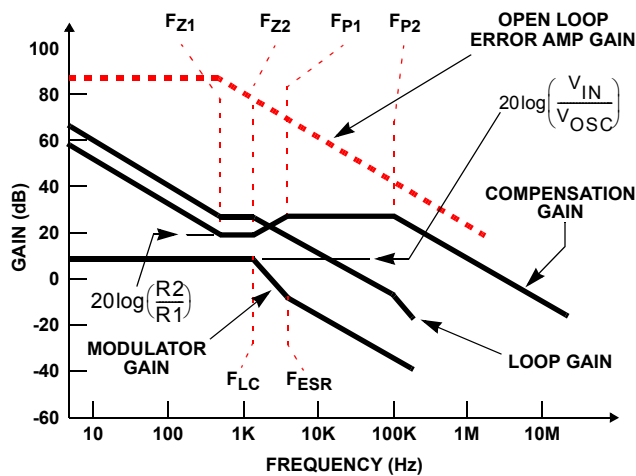

FIGURE 6. ASYMPTOTIC BODE PLOT OF CONVERTER GAIN
Figure 6 shows an asymptotic plot of the DC/DC converter's gain vs. frequency. The actual modulator gain has a high gain peak dependent on the quality factor (Q) of the output filter, which is not shown in Figure 6. Using the above procedure should yield a compensation gain similar to the curve plotted. The open loop error amplifier gain bounds the compensation gain. Check the compensation gain at  $F_{P2}$  with the capabilities of the error amplifier.